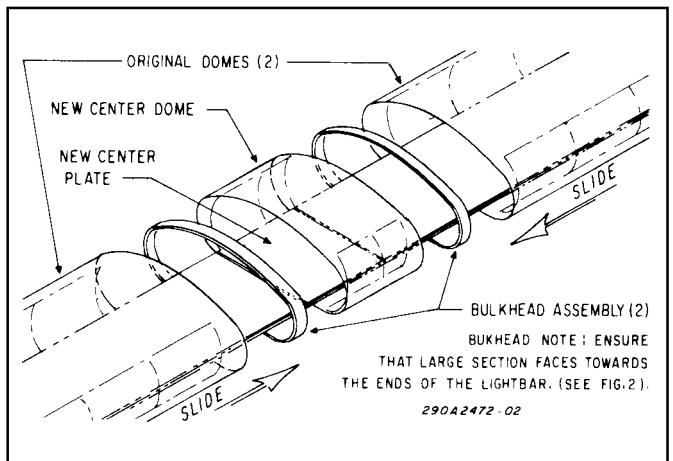

Figure 3.
6. Reinstall both dome assemblies, removed in step 1(see figure 3). Reinstall each dome assembly identification plate with the previously removed screws.